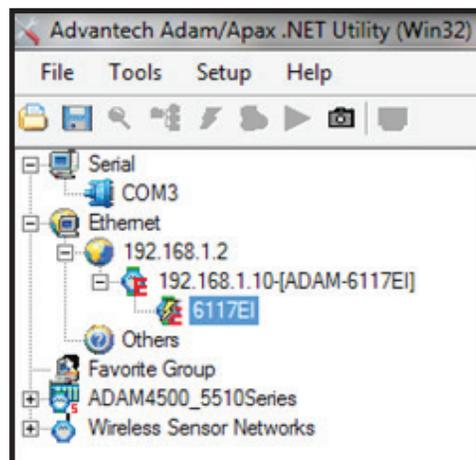

Figure 4—Module IP address and name
4. Click **Apply**. The module will reboot and a “Network change success!” message will appear. Click **OK**. Note that the module's new IP address now appears in the tree below the PC IP address, and the name of the module appears below its IP address (Figure 4).